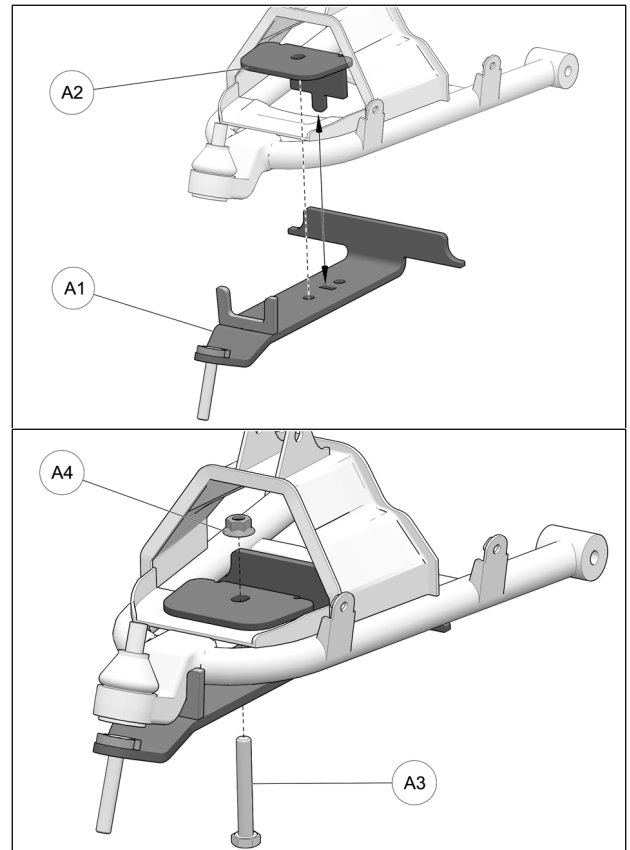

Fig. 15
- Position bottom part of anchor bracket (A1) assembly under front lower suspension arm, as shown in the figure below. Position bracket cover (A2) over suspension arm and insert tenon at one end of cover in the mortise cut out of bottom part. Insert the M10x70mm bolt (A3) from the bottom and secure the two parts together with the nut (A4) provided. Tighten assembly to 50 N•m [37 lb•ft] of torque. Refer to Fig. 15